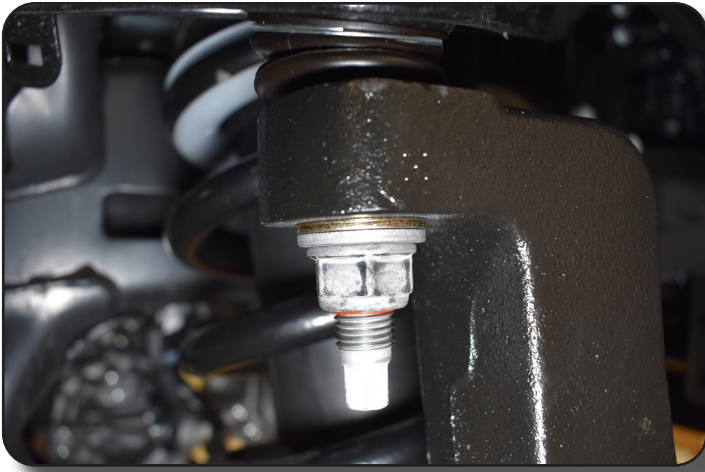

Figure 51
83. Connect knuckle to upper control arm ball joint using OE nut and provided 9/16" washer. Fig. 51 Torque to $26 + 180^\circ$ ft-lbs.